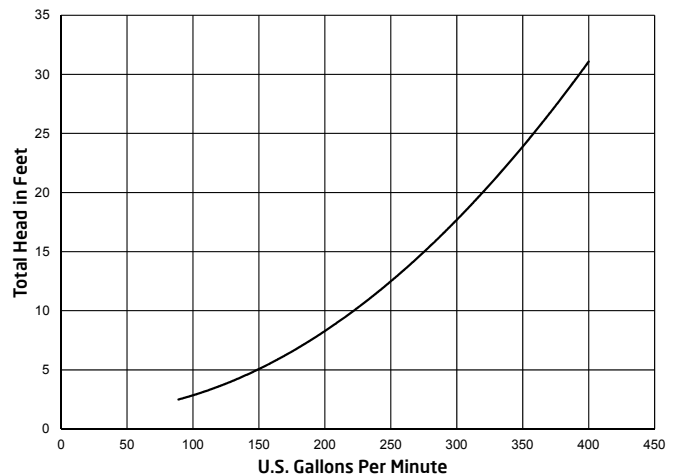

Figure 2
- For optimal performance, use 4" plumbing when the total distance between the pump and jet housing is 30 ft or less. The plumbing should be as direct and free from turns or bends as possible because **elbows and other fittings can create large friction losses and reduce the performance of the system. The shortest length of pipe with the minimum number of fittings possible should be used to avoid any significant friction loss due to the pipe and fittings.** **NOTE:** Refer to Figure 2 for the BaduJet Imperial head loss curve.
- A maximum of seven (7) 90° 4" elbows may be used with 30 ft of horizontal 4" pipe for the suction line and 30 ft of horizontal 4" pipe for the discharge line without negatively affecting the performance of the system.
- If more elbows are required for the installation, 4" sweeps must be used in place of the elbows. When using sweeps instead of elbows, a maximum of nine (9) 4" sweeps may be used with 30 ft of horizontal 4" pipe for the suction line and 30 ft of horizontal 4" pipe for the discharge line without negatively affecting the performance of the system.